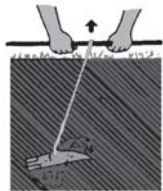

Figure 5
3. At the mooring points themselves you will need a wooden stake, 1/2"/1.25 cm of rebar or a "duck bill" type earth anchor --see Figure 5.